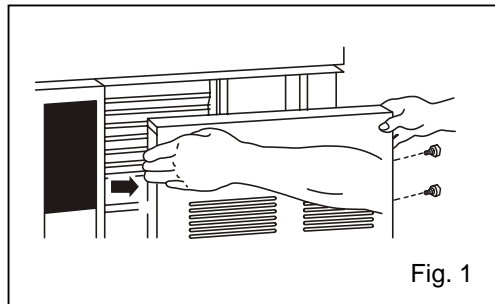

Fig. 1
1. Remove the mounting screw securing the grille and pull out the grille. (Fig. 1)